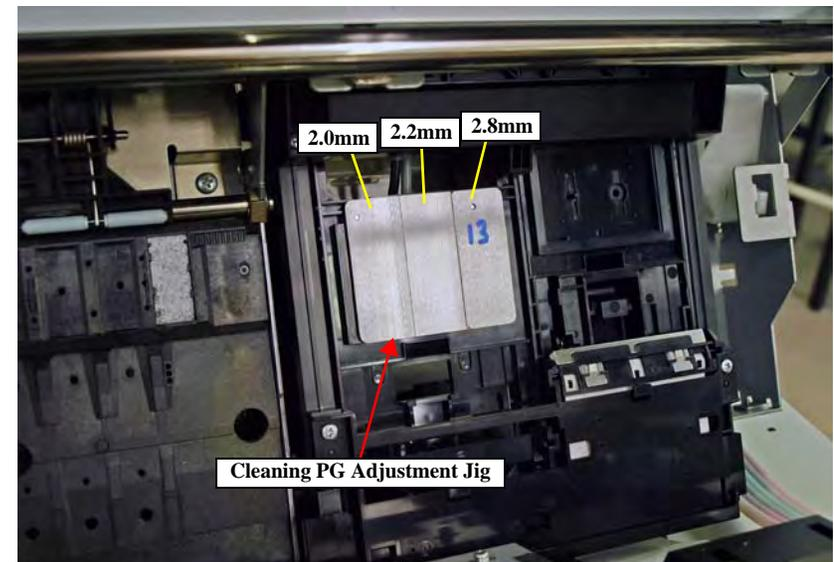

Figure 5-21. Position for the Jig
9. Set the Cleaning PG Adjustment Jig to the position shown in Figure 5-21.
18. Set the Cleaning PG Adjustment Jig to the position shown in **Figure 5-21**.